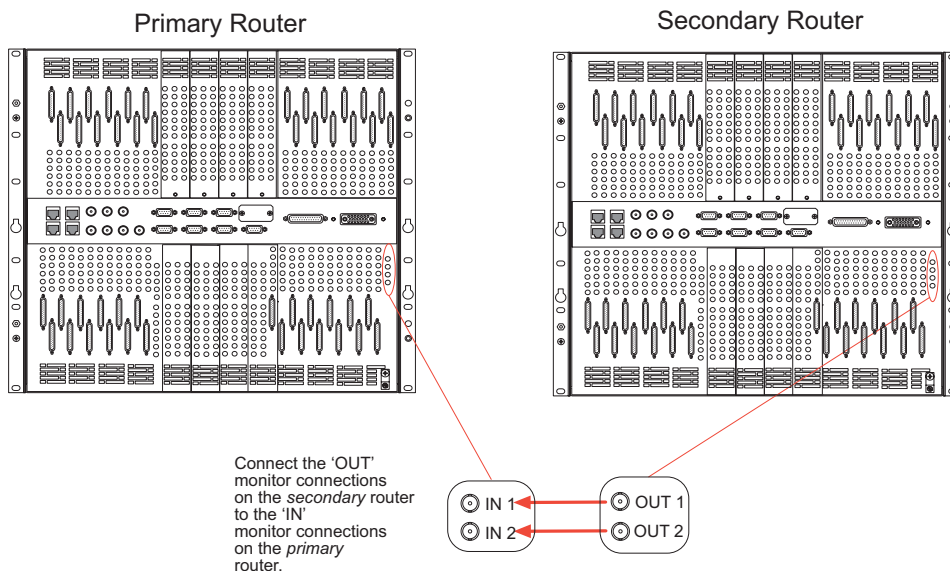

Figure 3-21. Monitor Connections Between Two NV8288-Plus Routers (Rear View)
- 3 Connect the other end of the cable to the 'IN 1' monitor connection on the *primary* router (the router with direct connections to the monitoring equipment), as shown in Figure 3-21.
- 5 Connect the other end of the cable to the 'IN 2' monitor connection on the *primary* router, as shown in Figure 3-21.